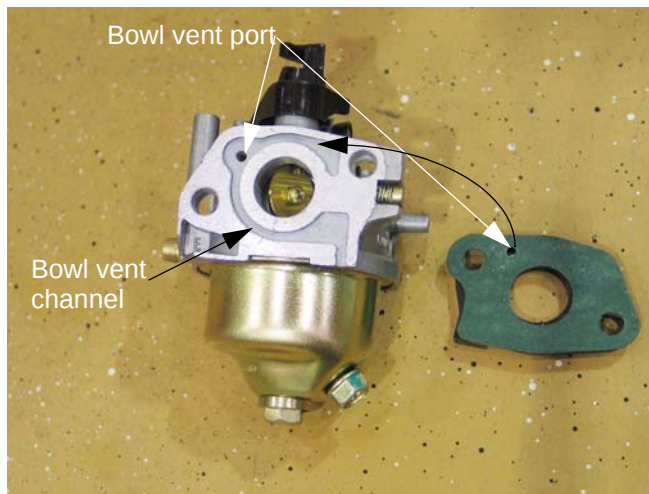

Figure 8.22
8.22. There is a corresponding passage recessed into the mating surface where the throttle end of the carburetor housing meets the gasket. See Figure 8.22.